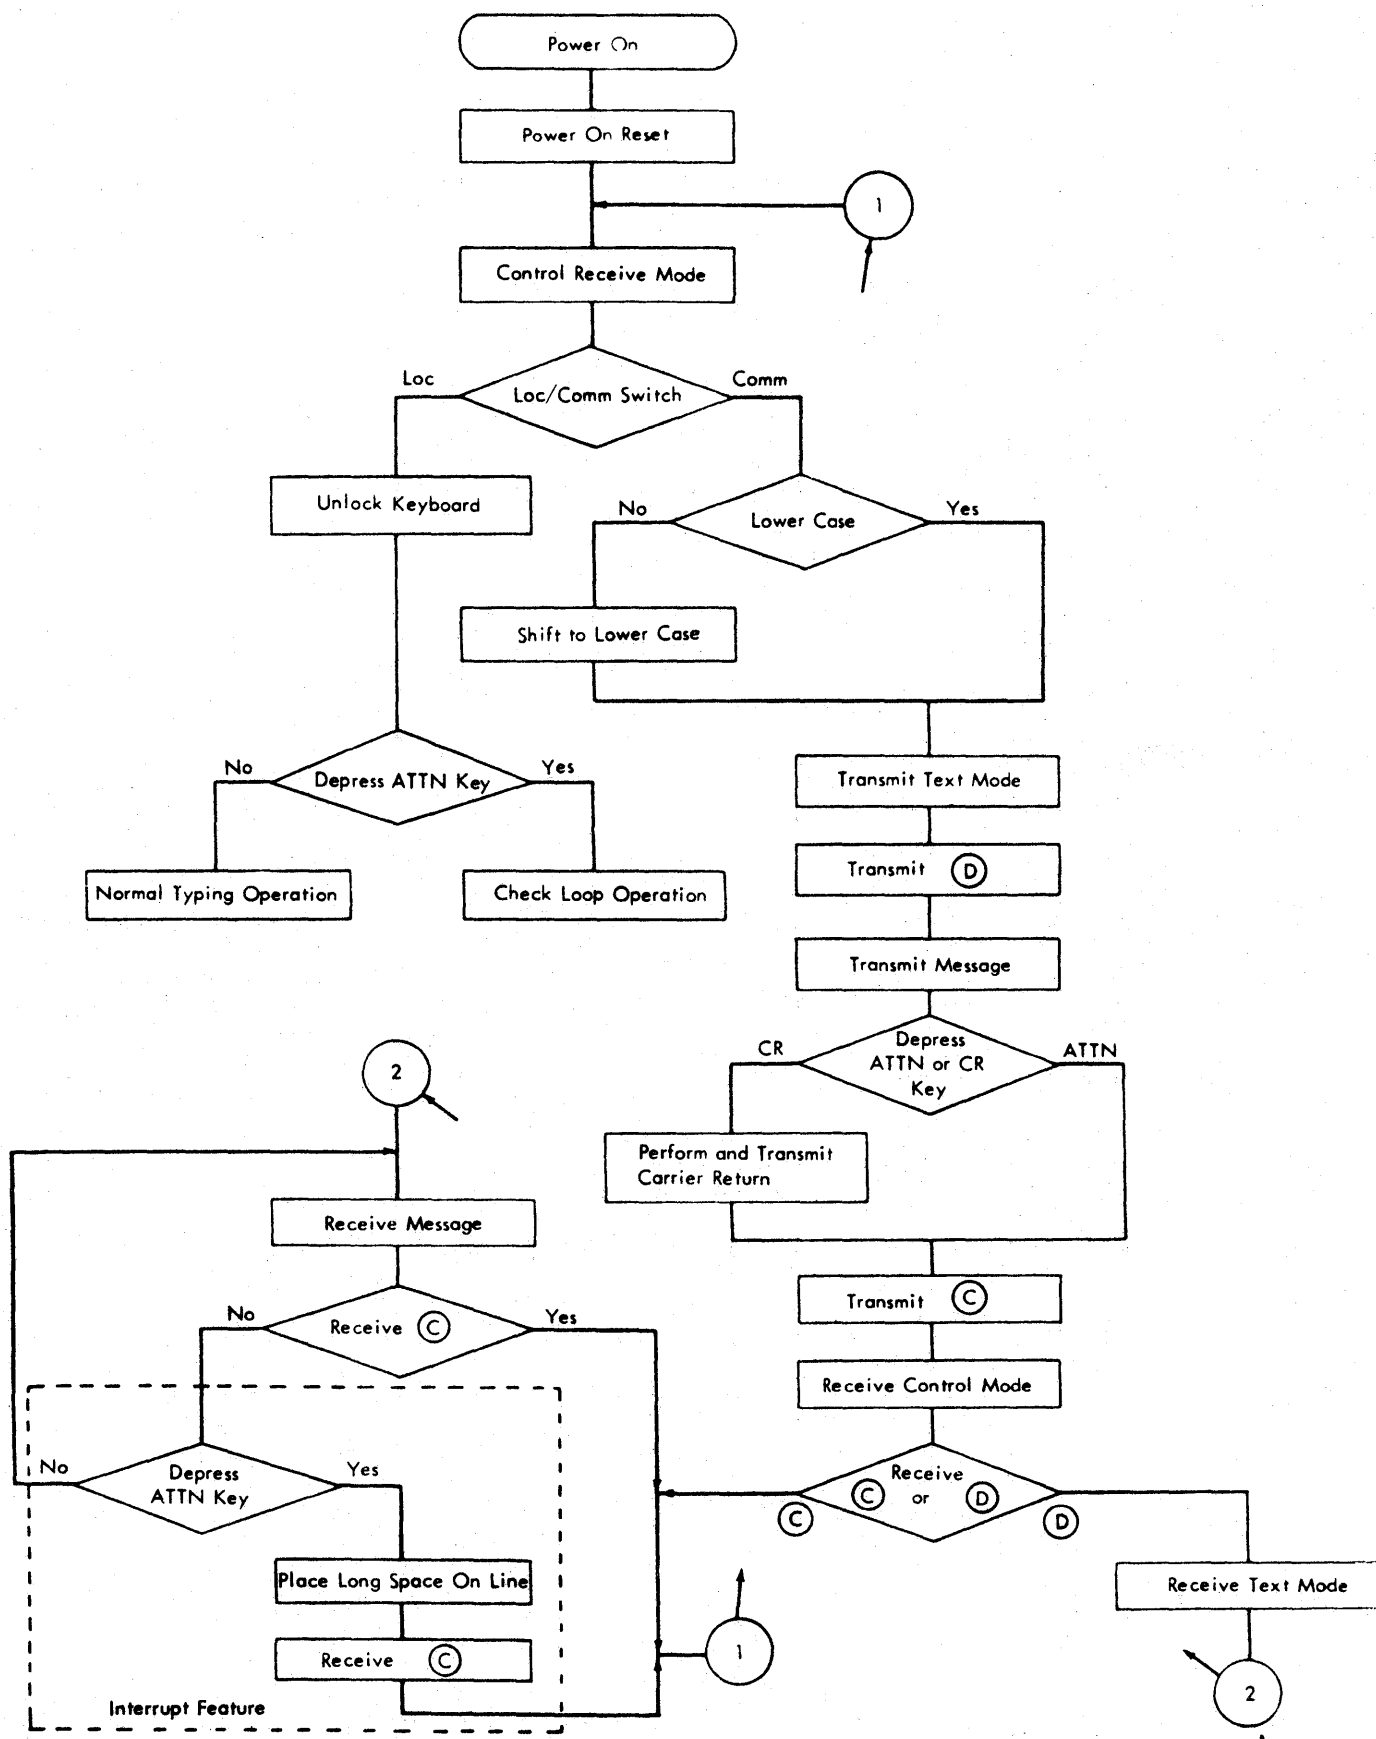

Figure 37. IBM 2741 (with Interrupt Feature) Flow Chart
Line control becomes effective on the 2741 when the terminal power switch is turned on and the terminal mode switch is set to communicate. The terminal is then in a transmit state and a (D) code is sent to the computer (Figures 37 and 38). The operator may transmit by keying as on a typewriter.